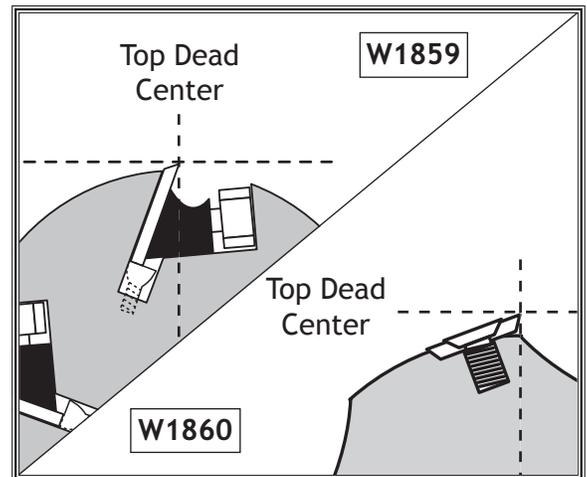

Figure 48. Knife or insert at TDC.
6. Use motor pulley to rotate cutterhead until one knife or insert is at TDC (its highest point during rotation), as shown in Figure 48.